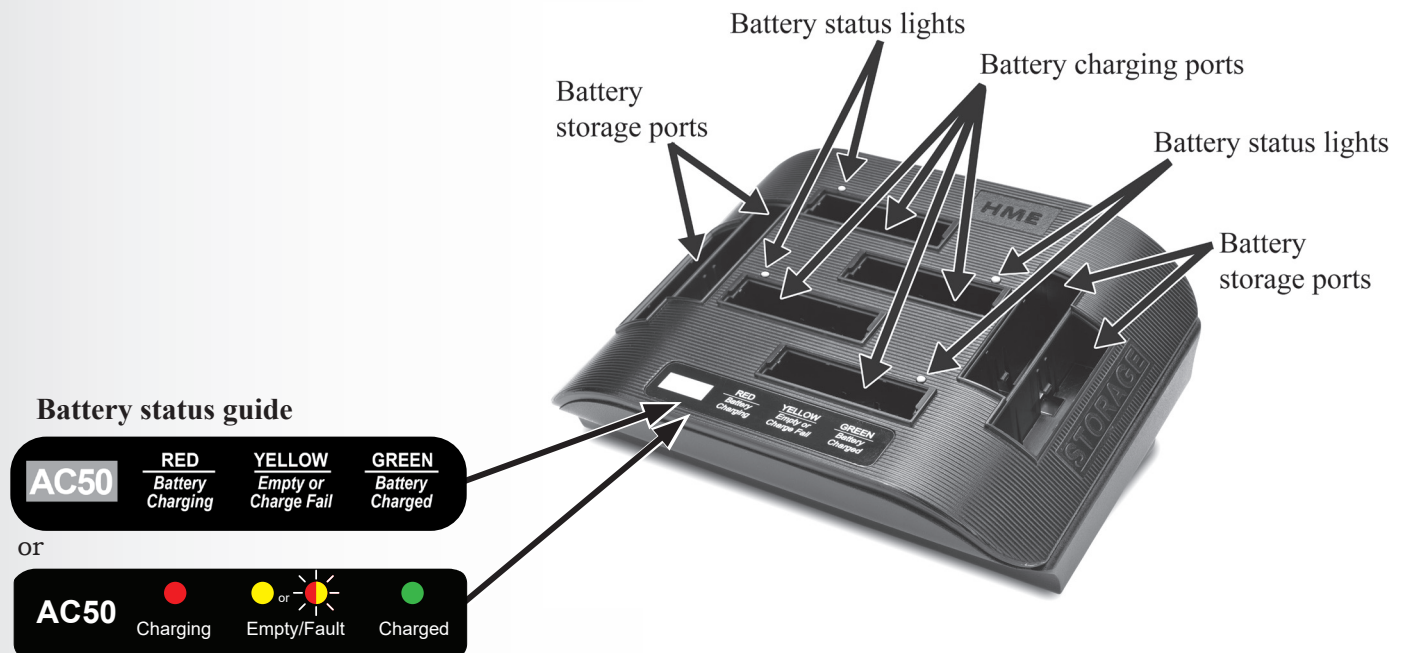

Figure 8. AC50 Features and Battery Status Guide
- If a **YELLOW LIGHT** is on steady or a **YELLOW and RED LIGHT** is flashing next to a battery in a charging port, it means the charge failed (yellow/red flashing only occurs on battery chargers using the second Battery status guide label shown in Figure 8). If this happens: